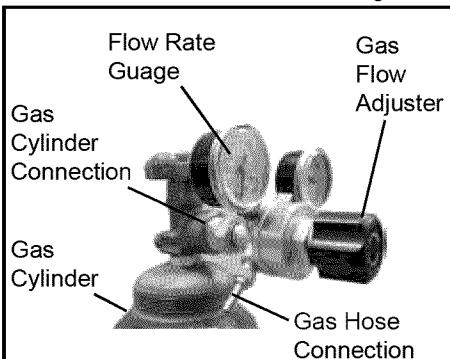

Fig. 9
2. Connect the other end of the gas hose to the gas hose connection on the supplied regulator/flowgauge(Fig 9).
5. Turn the Gas Flow Adjuster on the regulator so that the gas flow rate is set at approximately 20 CFM on the flow rate guage (Fig 9). Make certain you are reading the correct scale on the gauge.